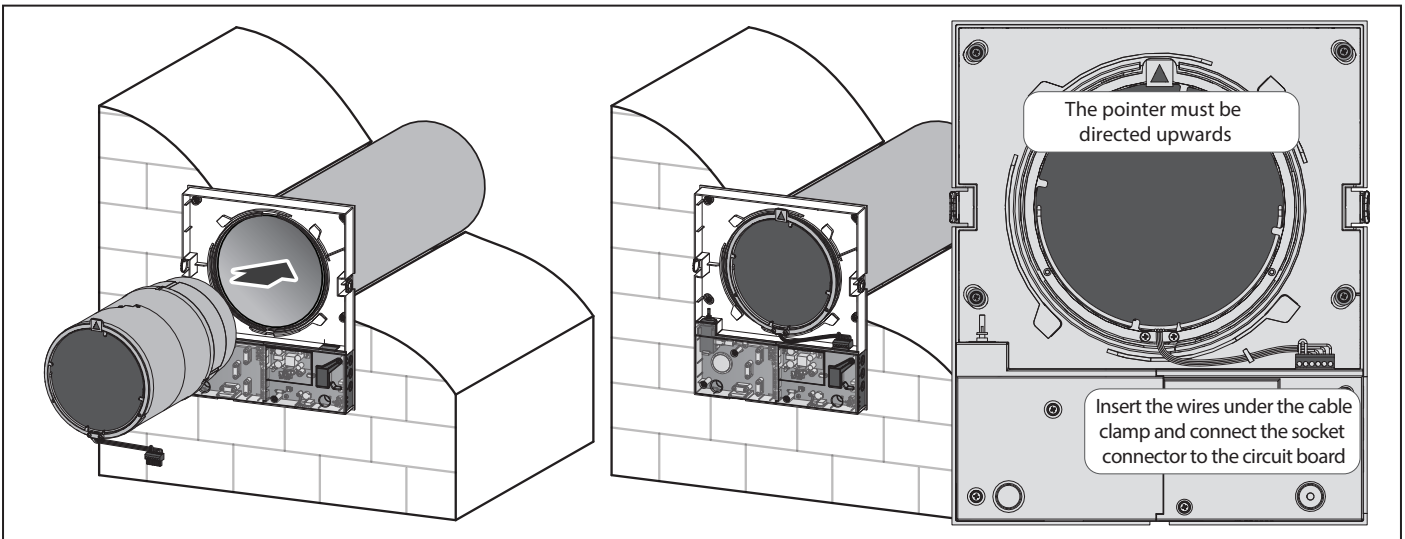

Fig. 11.
7. 7. Insert the cartridge into the air duct (see Fig. 11). The pointer must be directed upwards. Then fix the wire with the protruding clamp and connect